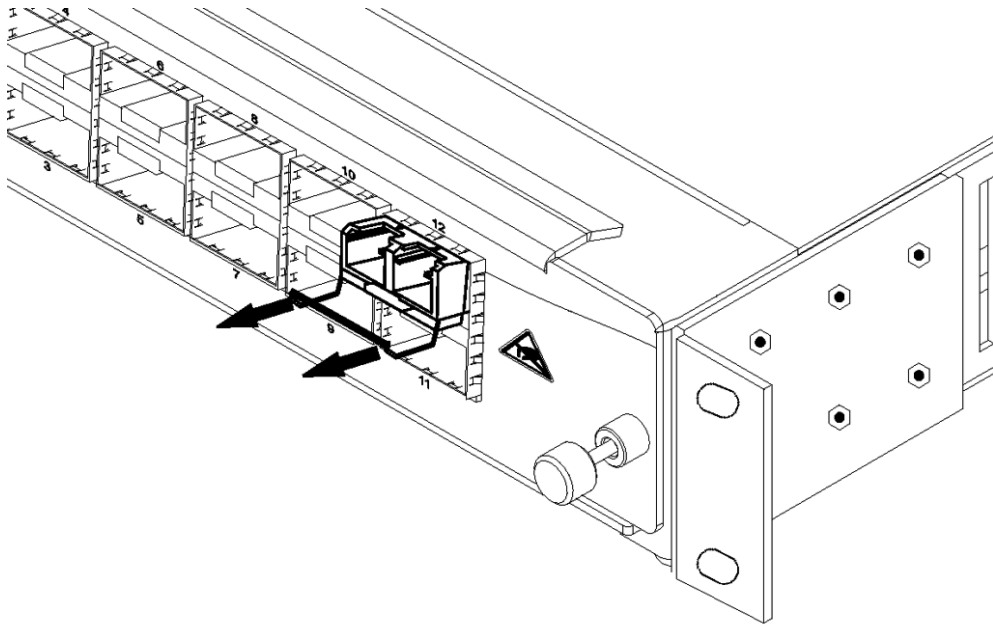

Figure 35. Removing the SFP Module
- Pull the module by the latch, according to Figure 35.